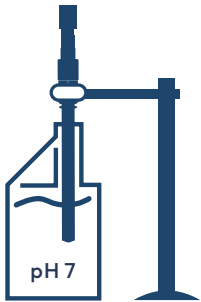

Figure 13: Sensor calibration setup with pH 7 buffer solution
2. Clamp the sensor to hold it in position inside the buffer solution bottle (see Figure 13).